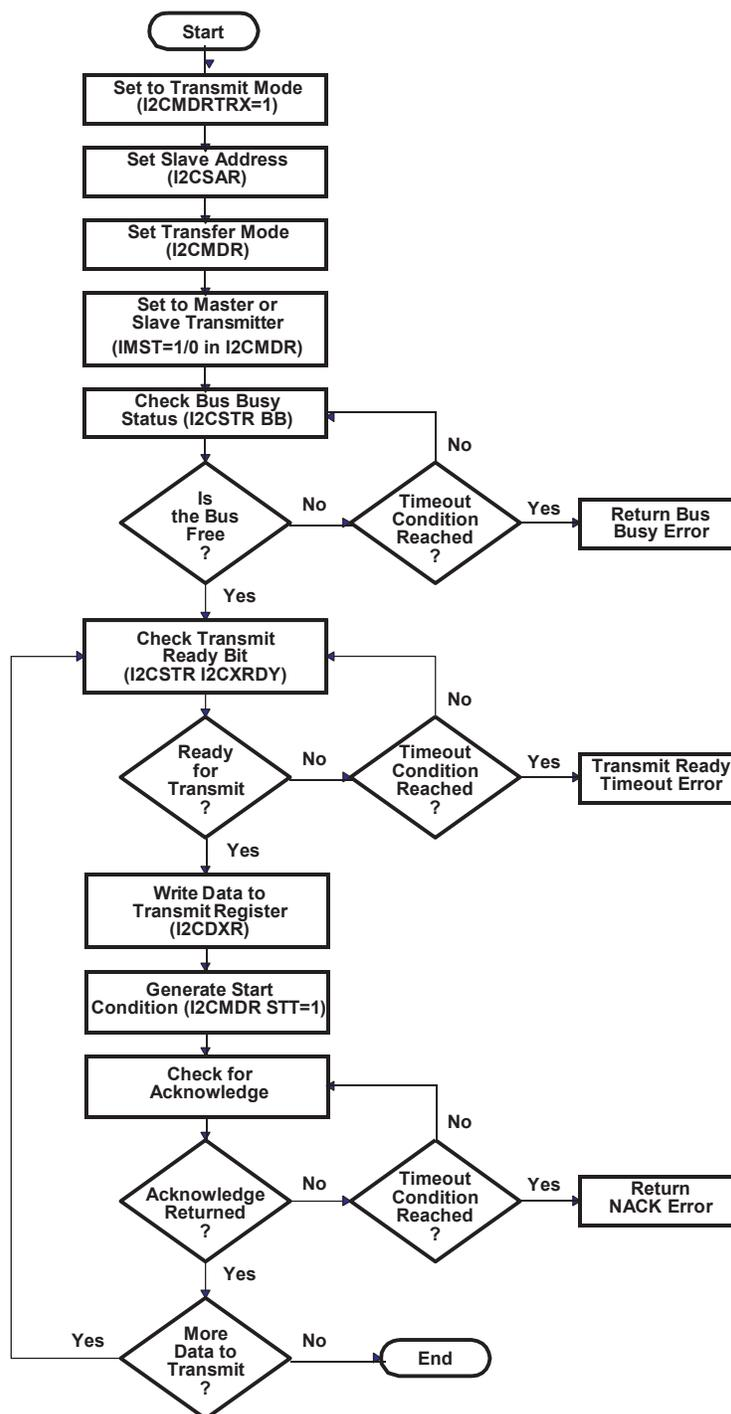

Figure 3. I2C_write
- I2C_write(): Figure 3 illustrates a block diagram of I2C_write. This function can be used to perform the master transmitter and slave transmitter I2C modes. It takes a pointer, as input, to the data that will be sent, the number of bytes to be transmitted, the master mode (on/off), the slave address, the transfer mode, and the timeout for various errors.